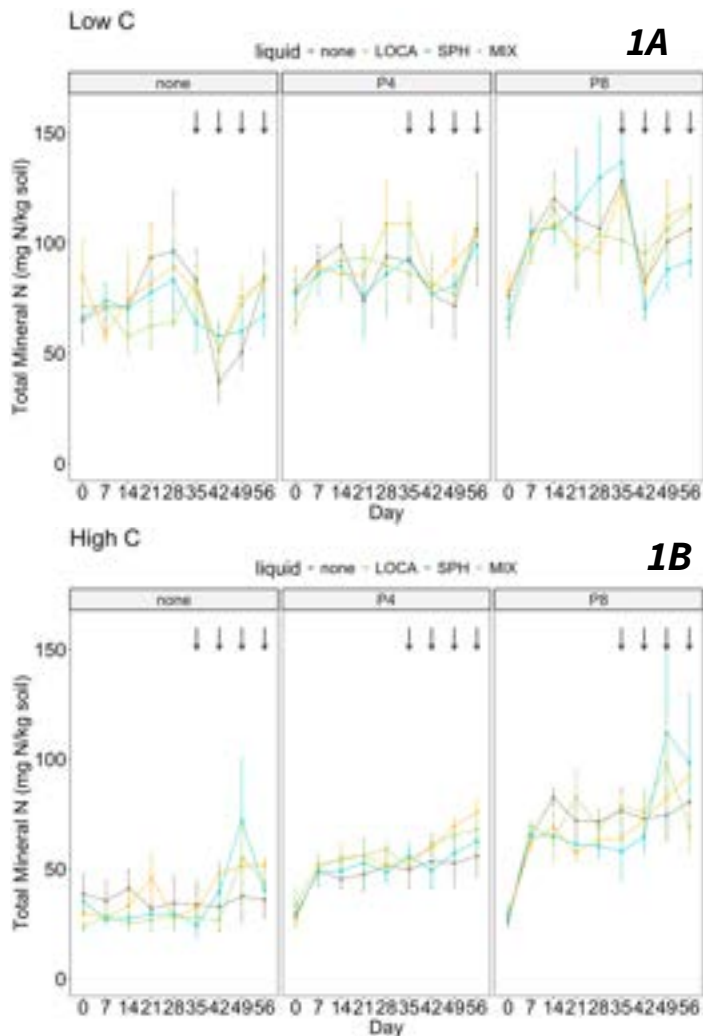
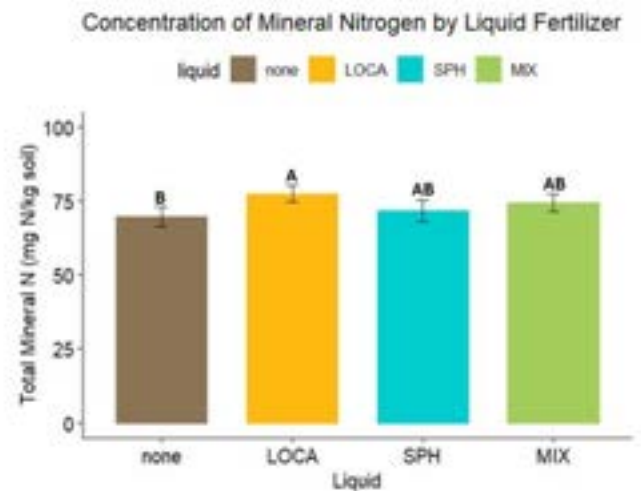

Figure 1. Total Mineralized Nitrogen in Low Carbon (1A) and High Carbon (1B) Soils over eight weeks
Figure 3.
Figure 1. Realized FN concentrations with varying fertilizer band widths and fertilizer placement, assuming 100 lbs N/acre applied on 40" raised beds, incorporated to 6" depth.
- The lower rate represented broadcast applications, while higher rates simulated banded applications ranging 5-20 inches (Fig. 1).
**Liquid organic certified ammonium increased the concentration of mineral N relative to control treatments receiving the same amount of total N, but no liquid fertilizer. Fig. 3 Mineral N increased throughout the incubation in high SOC soils (Fig. 2), while in the low SOC soils, the concentration rose initially and declined in the second half of the incubation (Fig.1).**
Figure 1. Photos of the experimental plot and downy mildew-infected plants. A. Experimental plot. B. Leaf showing chlorotic patches caused by downy mildew. C-E. Downy mildew sporulating on the underside of the leaves.